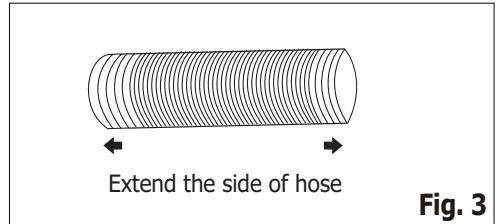
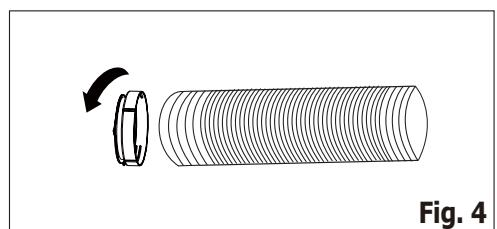

Fig. 3
Fig. 4
1. Extend either side of the hose (Fig. 3) and screw the hose to adaptor A (Fig. 4).